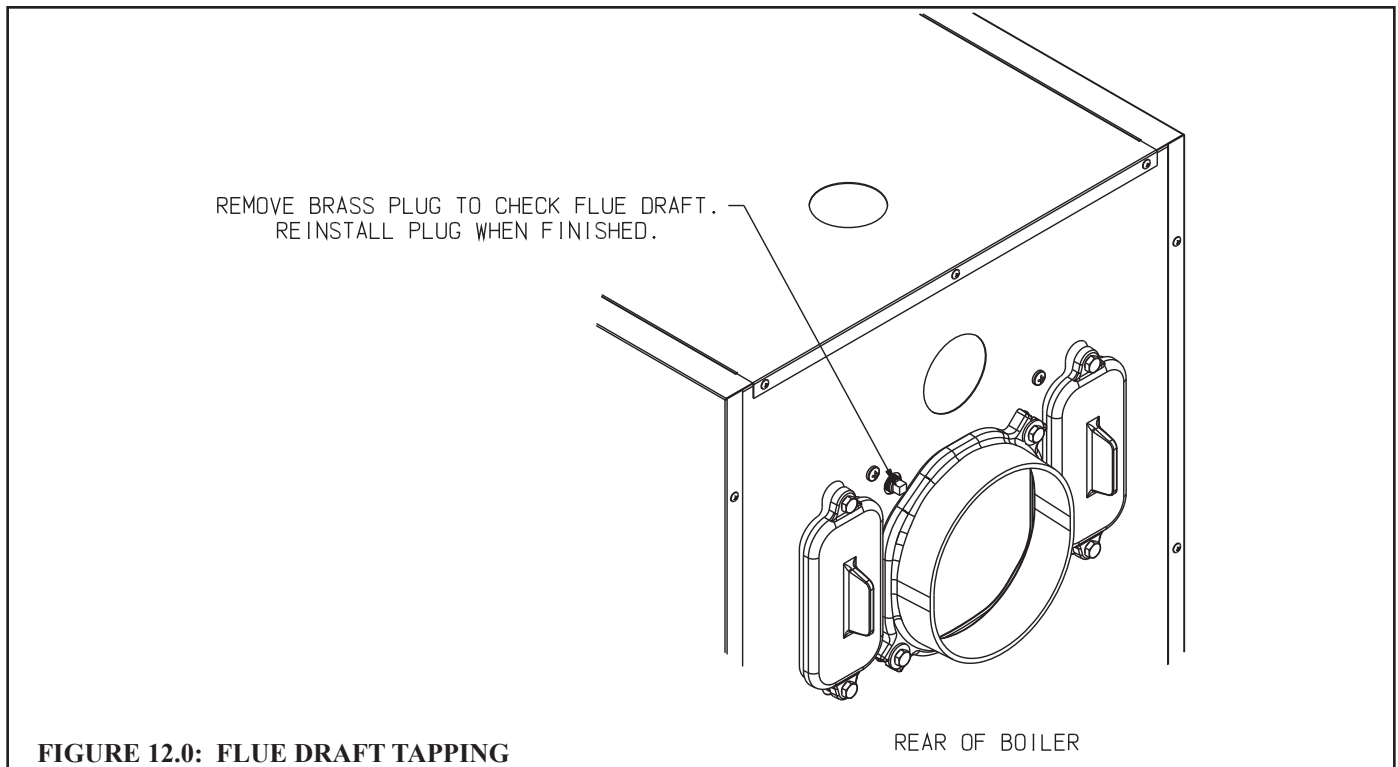

FIGURE 12.0: FLUE DRAFT TAPPING
- 19) After chimney has warmed-up for at least 5 minutes, adjust barometric draft regulator to obtain a draft at the 1/4" tapping shown in Figure 12.0 that is within the range shown in Table 12.1. **DRAFT AT THIS LOCATION MUST NEVER BE POSITIVE.**